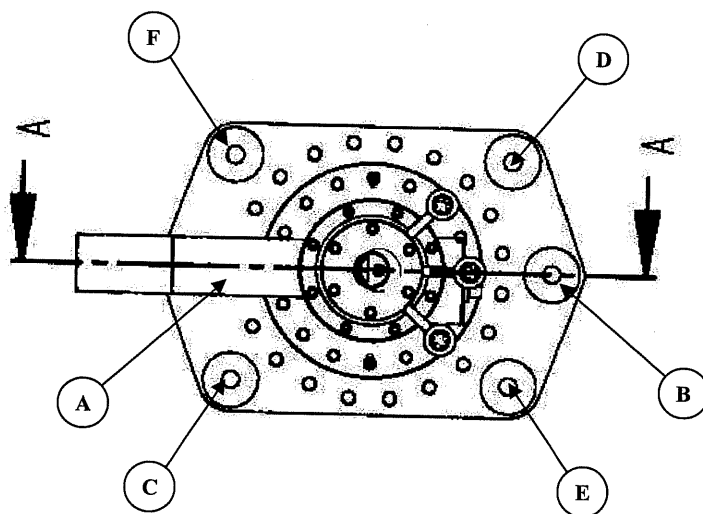

Figure 5.9
5.9.1.4 Using the sequence A through F in figure 5.9, tighten the nuts $\frac{1}{4}$ turn until the total compression is 1.8 mm. Record measurements below.
5.9.2.4 Using the sequence A through F in figure 5.9, tighten the nuts $\frac{1}{4}$ turn until the total compression is 1.8 mm. Record measurements below.